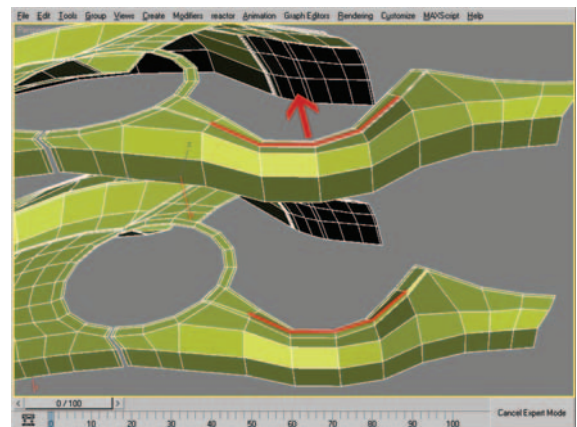

Figure 8.76 Edge selection before and after moving with the Move tool.
76. Select the edges seen in Figure 8.76 (top) and move them out away from the body of the mesh to create a “ridge” with a little depth (Figure 8.76, bottom).